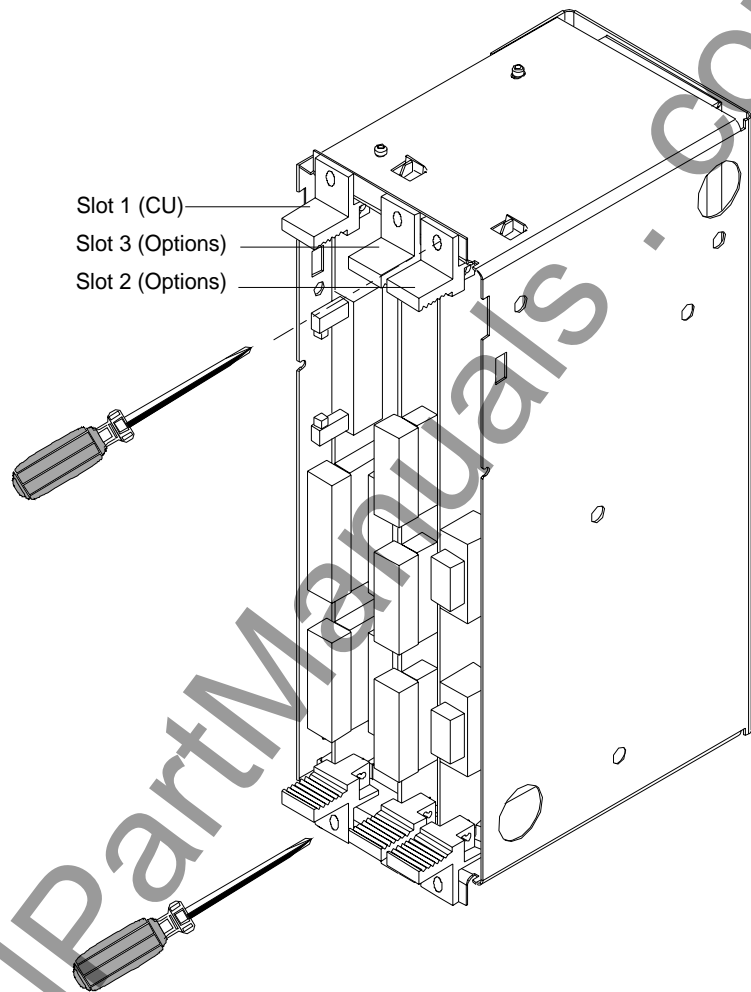

Fig. 5.3 Electronics box equipped with CU (slot 1) and options (slot 2 (right) and 3 (middle))
- Remove both mounting bolts from the electronics box (Fig. 5.3)